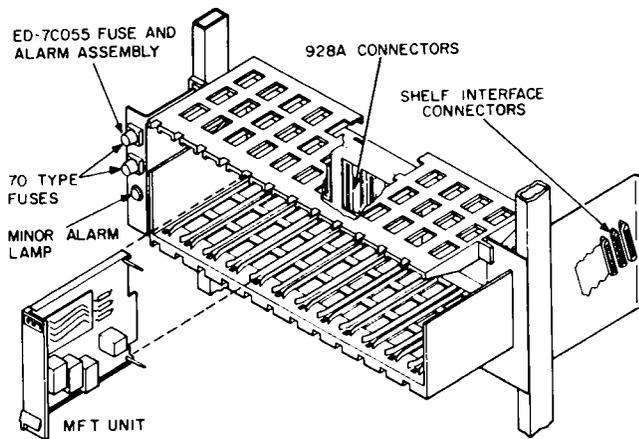
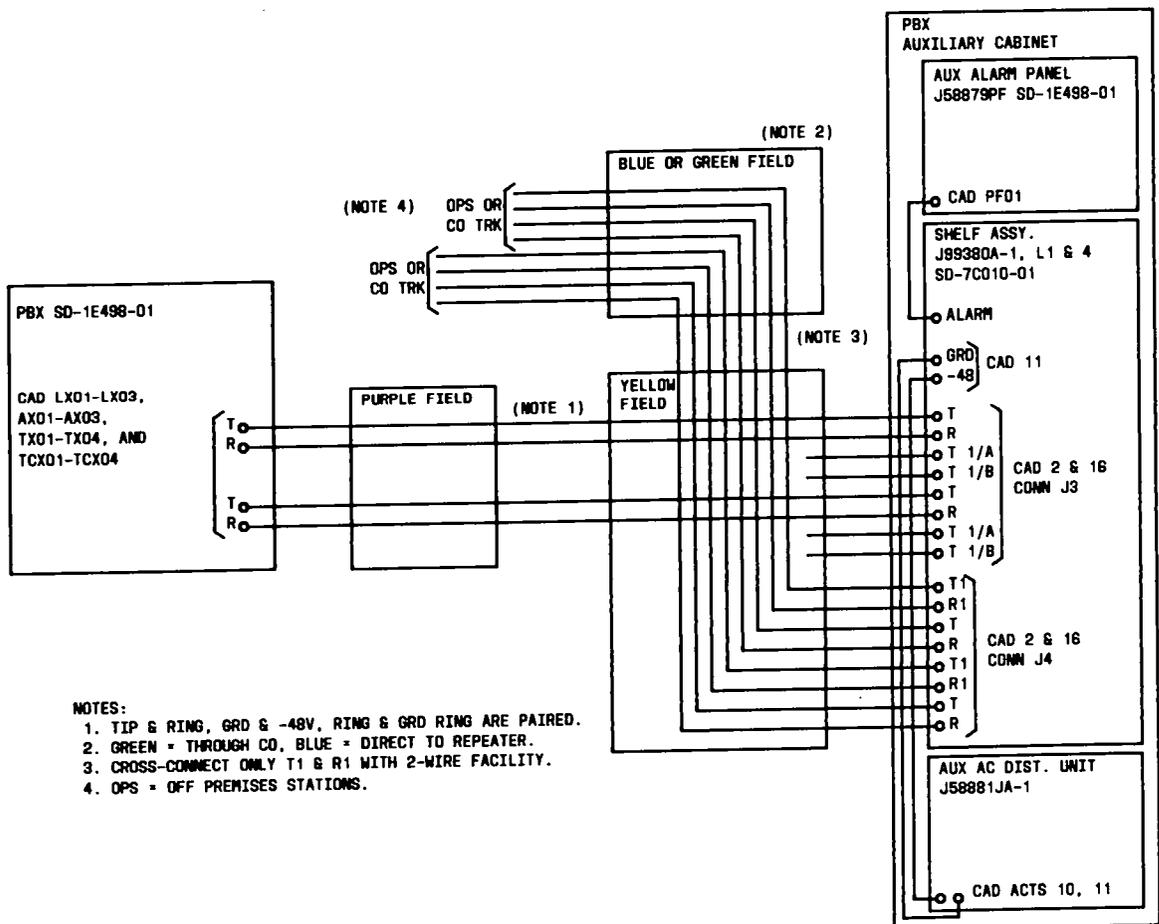
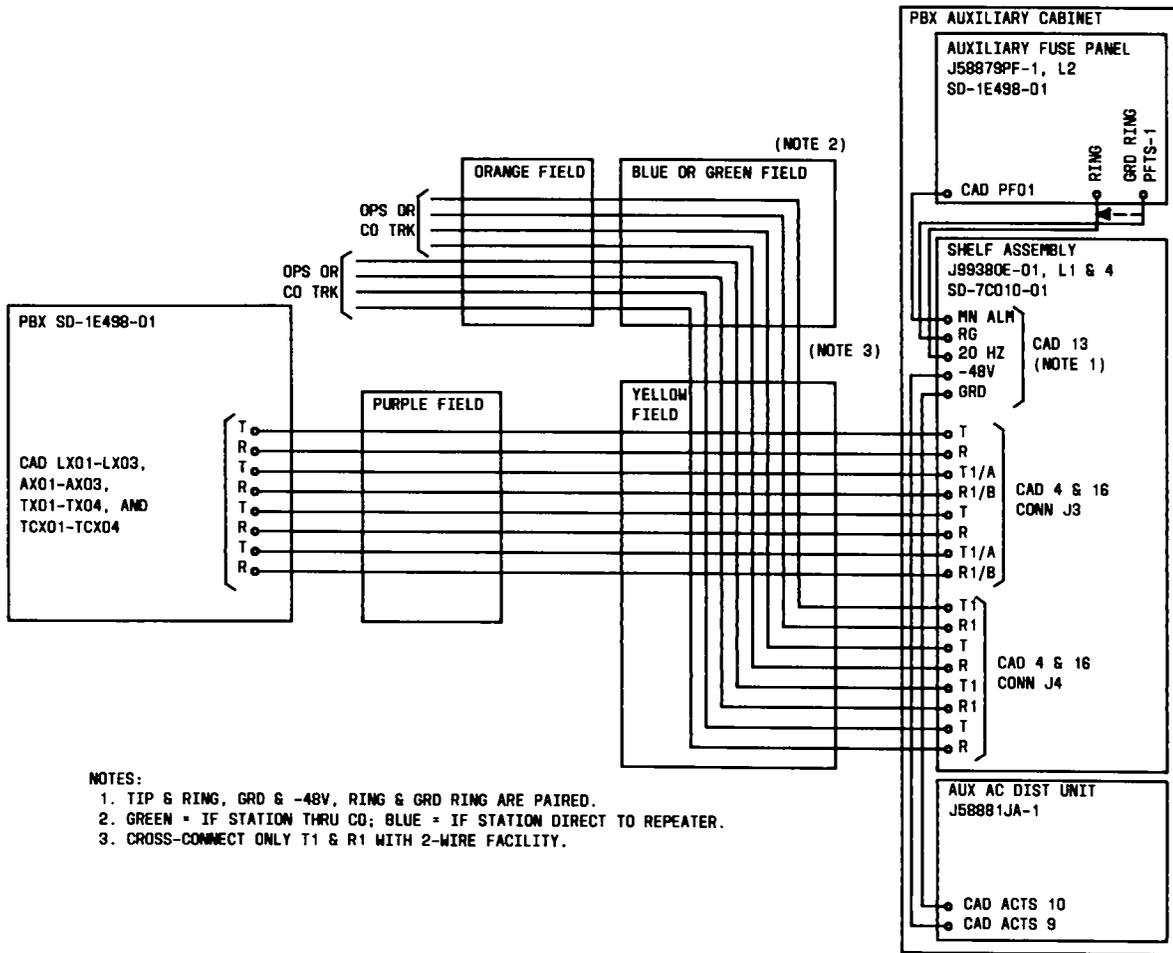

Fig. 14—Single Module Shelf (J99380A) or Double Module Shelf (J99380E)
Fig. 15—Single Module MFT Assembly—PBX Interconnection
Fig. 16—Double Module MFT Shelf Assembly-PBX Interconnection
**4.42** The single-module shelf (J99380A) is used when only transmission is required. A shelf which may be wired for use as a single-module or double-module shelf (J99380E) is shown in Fig. 14. Interconnection information for the single-module shelf and DIMENSION PBX is shown in Fig. 15.
**4.43** When both transmission and signaling treatment are required, the double shelf is used. The shelf in Fig. 14 can be used for the double arrangement when it is wired for this purpose. Interconnection information for the double-module shelf and DIMENSION PBX is shown in Fig. 16.